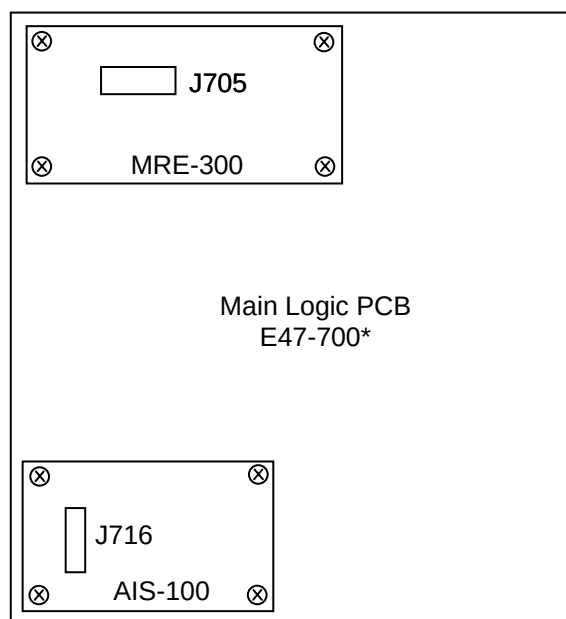

Figure A.1 Position of the ATA and AIS module
- (1) Locate the position of the four fixing studs on the Main Logic PCB (E47-700*) prepared for the ATA module. (Refer to the figure below)
- (2) Put the ATA module (MRE-300) on the studs and press the module gently downwards in order that the connector installed on the module properly plugs into the receptacle J705 on the Main Logic PCB.
- (3) Fix the module using the four 3 mm fixing screws, prepared in the ATA module kit.
- (4) Refer to the Figure A.1 and A.2 for the location of ATA module.